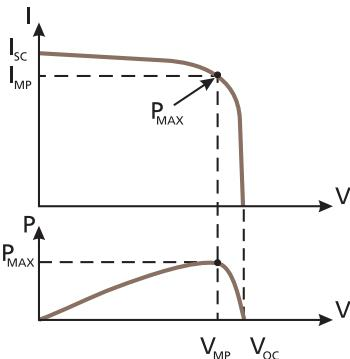

Fig. 2.1. Current (I), Voltage (V) and Power (P) Curves
A Current (I) versus Voltage (V) Curve of a Solar Panel ("I-V" Curve) shows the possible combinations of its current and Voltage outputs. A typical I-V curve for a 12V Panel is shown in Fig. 2.1.